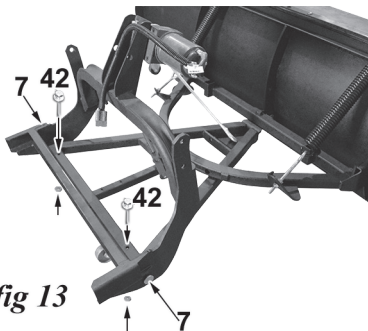

fig.13
- Attach the main frame to the A frame using the two frame pins (7, fig 13). Lock the pins into the A frame with an M8 x 52 mm gr.8 hex head bolt (42, fig 13) inserted through an 8 mm washer, then the top of the frame at each end and secured with M8 nylock nuts.
- Remove the gr.8 U-bolt from the top of the A frame, attach the lower end of the winch strap to it and re-attach. The strap should feed over top of the barrel of the winch toward the front and down to the attachment point on the A frame. (fig.13). The U-bolt should not be tightened fully. It should have a little play.
- Dis-regard steps 8 and 9 if using the DK2 Elite electric actuator kit. For help with actuator kit installation, visit <https://www.dk2snowplows.com/faq>; or call our toll free number, 1(888) 277-6960.